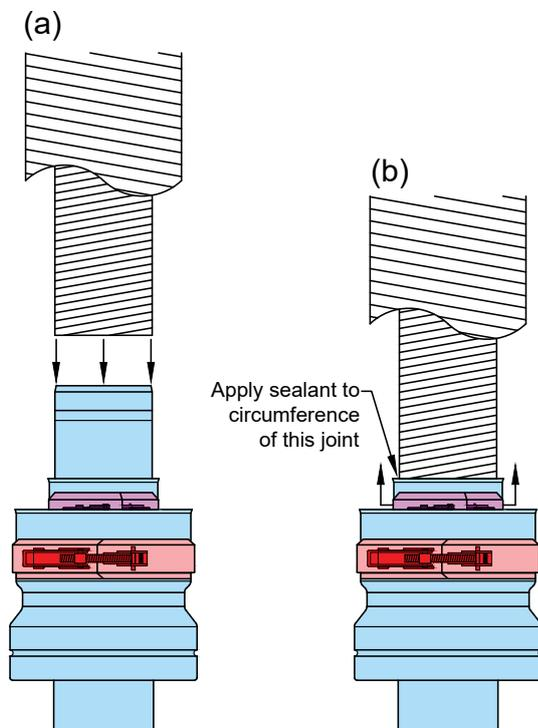

Figure 4-5: Fitting inner flue liner to adaptor
5. Place the two stainless steel locking bands on the adaptor and ensure the straight edge of both locking bands is pointing down (to fit onto the outer surface of the adaptor) and the angled edge is at the top (to fit onto the corrugations of the liner). Refer to Figure 4-5 (a).
6. Fit the end of the inner stainless steel liner onto the centre connection of the rigid to flexibile adaptor. Push inner liner down and into the socket. Refer to Figure 4-5 (a).
7. With the inner liner fitted fully into the inner socket of the adaptor, apply a bead of sealant (provided with the flue kit) all around the joint between the top edge of the socket and the inner flue liner and position the locking band over the joint without disturbing the joint. Refer to Figure 4-5 (b).
The rigid to flexible adaptor must always be fitted VERTICALLY as shown in Figures 4-5 to 4-7.